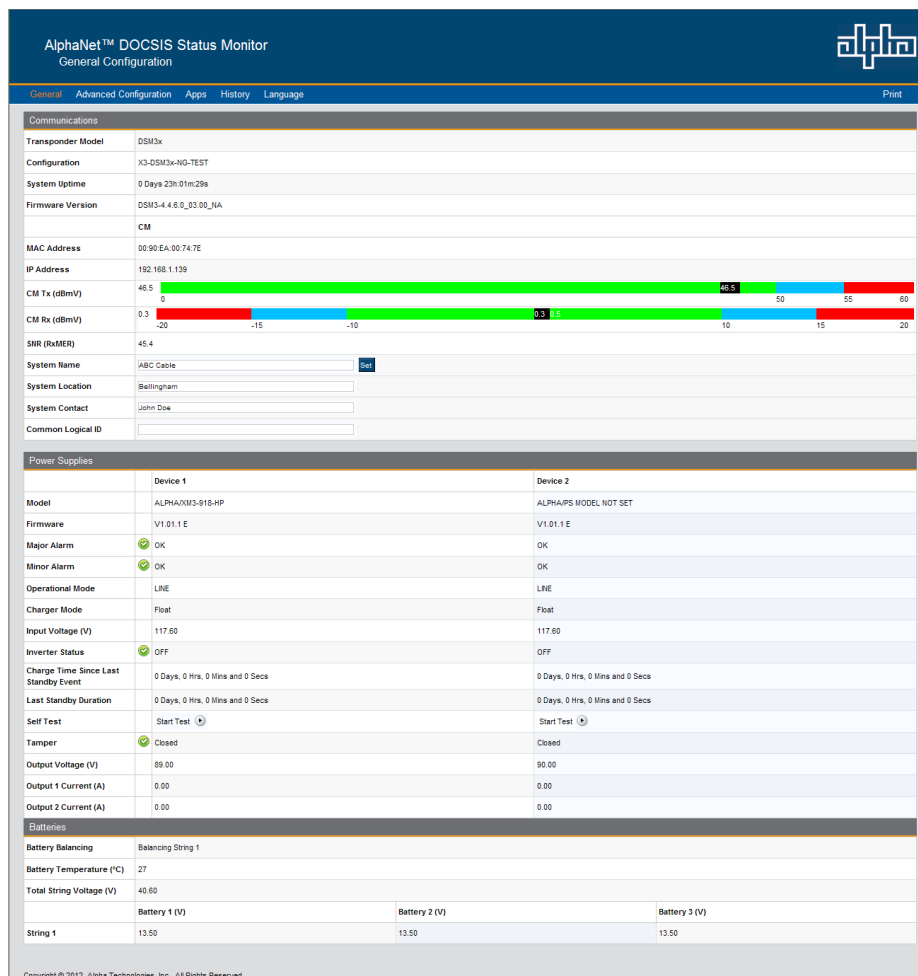

Fig. 2-42, Web Server Home Page
4. The DSM3 series transponder's web server home page will appear (**Fig. 2-42**).